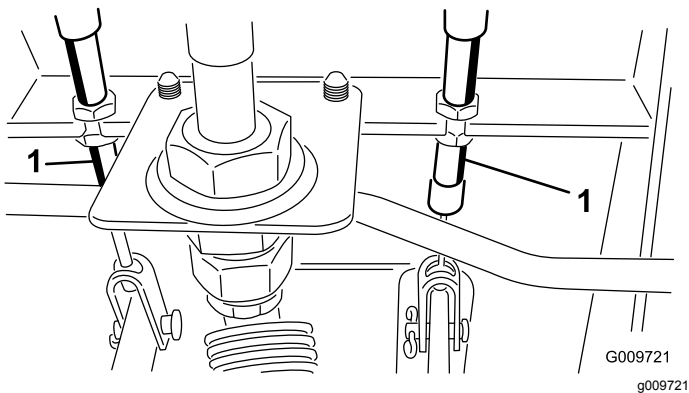

Figure 78
- A. Loosen the front nut on the threaded end of the brake cable (Figure 78).